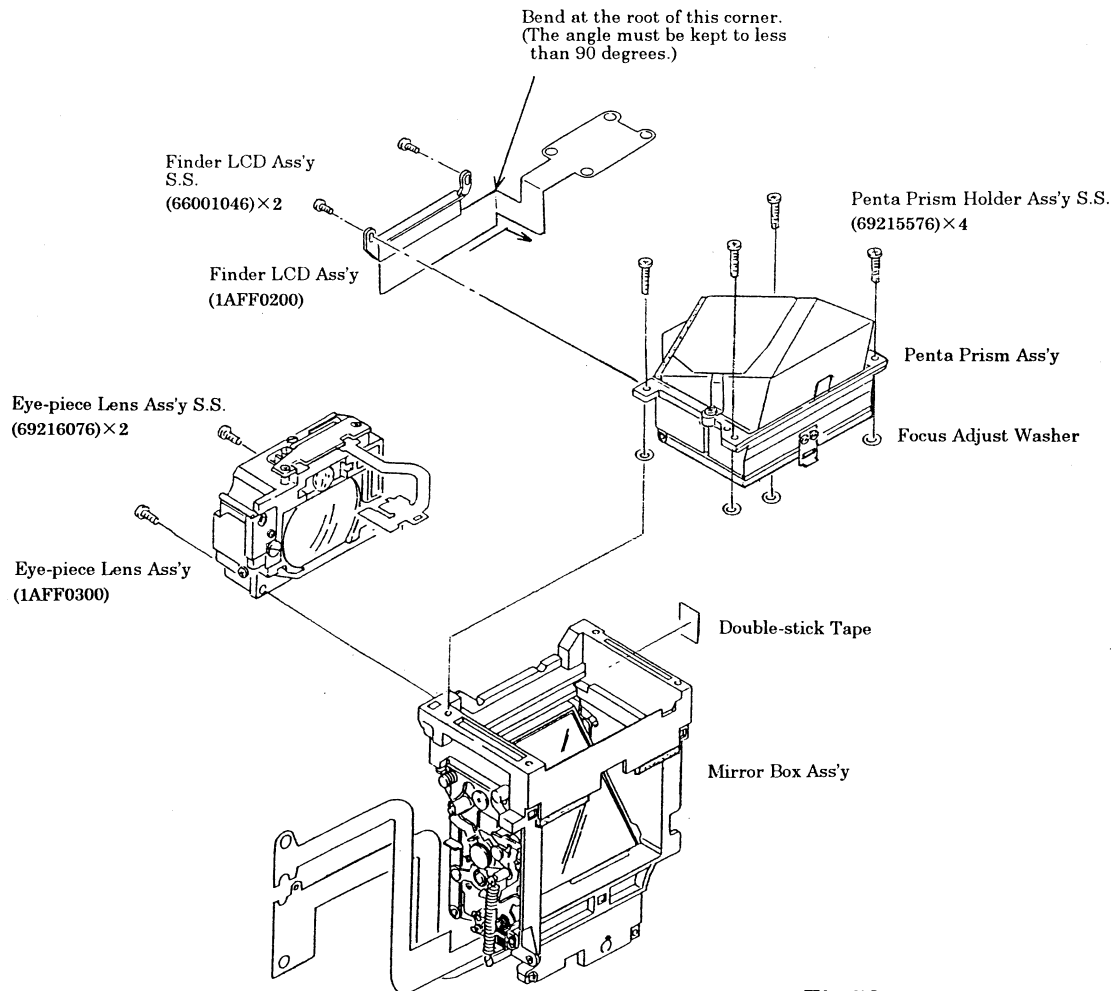

Fig.52
- Form the FPC for the Finder LCD Ass'y as shown in Fig. 52 before installing it on the Mirror Box.